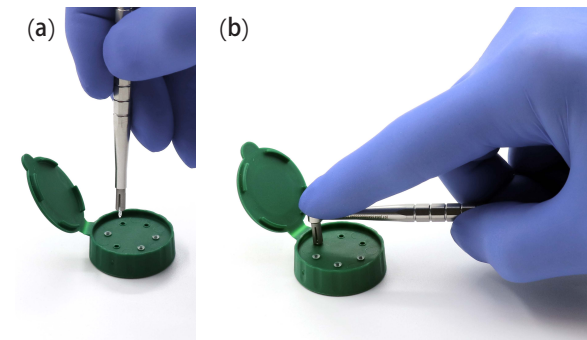

Fig. 3 Tack loading by the straight end (a) or the angled end (b) of the Tack Applicator
- 1) Take the Tack Applicator and press it firmly onto the Tack head. When a popping sound is heard, the tack is well fastened onto the Applicator (Fig.3)